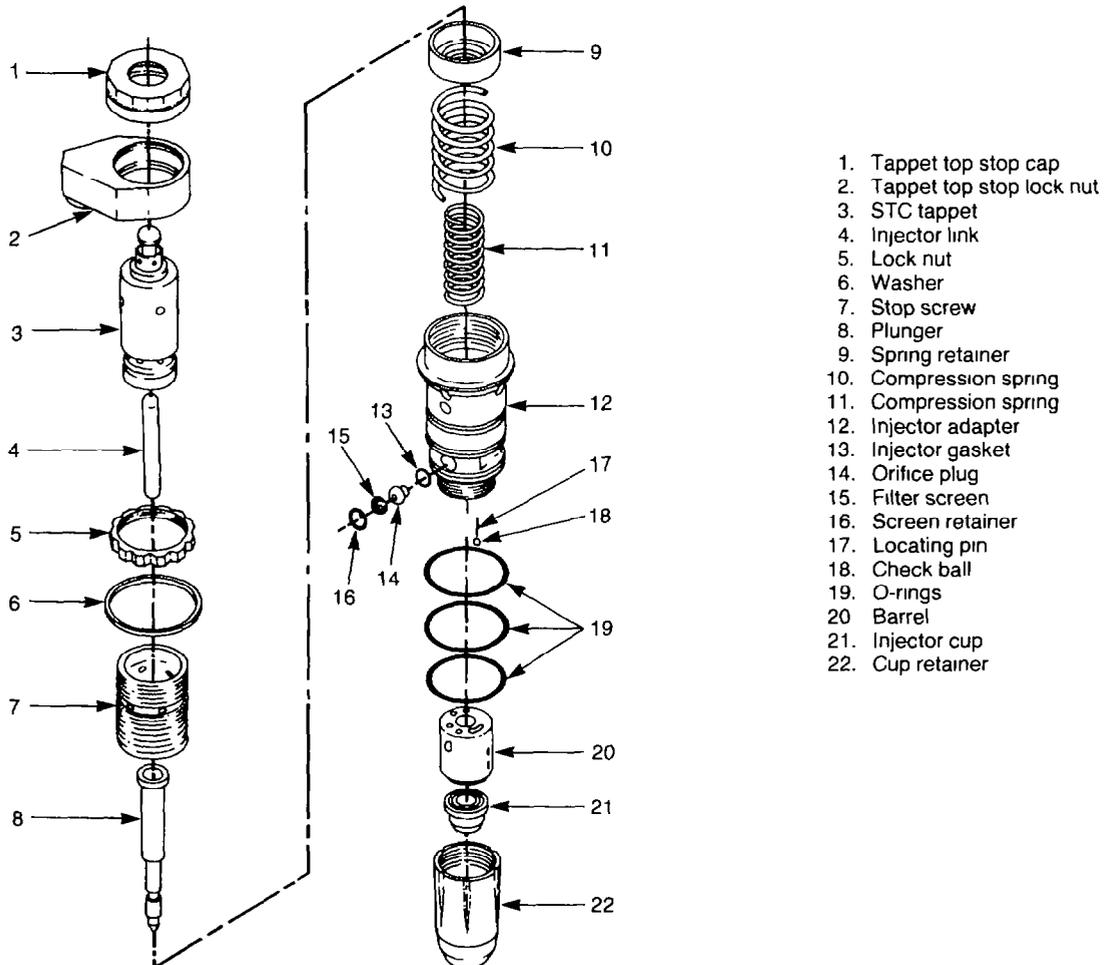

Figure 76 — Injector — Exploded View
- e. Position the injector assembly in the injector body wrench 3375102, then using the top stop injector crowsfoot wrench 3375166 loosen the tappet to top stop cap (see Fig. 76, item 1).
- f. Remove the tappet top stop cap, tappet top stop lock nut, STC tappet and the washer (items 1, 2, 3 and 6) from the stop screw (item 7).
- g. Using the top stop crowsfoot wrench 3375166 loosen the lock nut (item 5), then using a pin punch remove the stop screw (item 7) from the injector adapter (item 12).